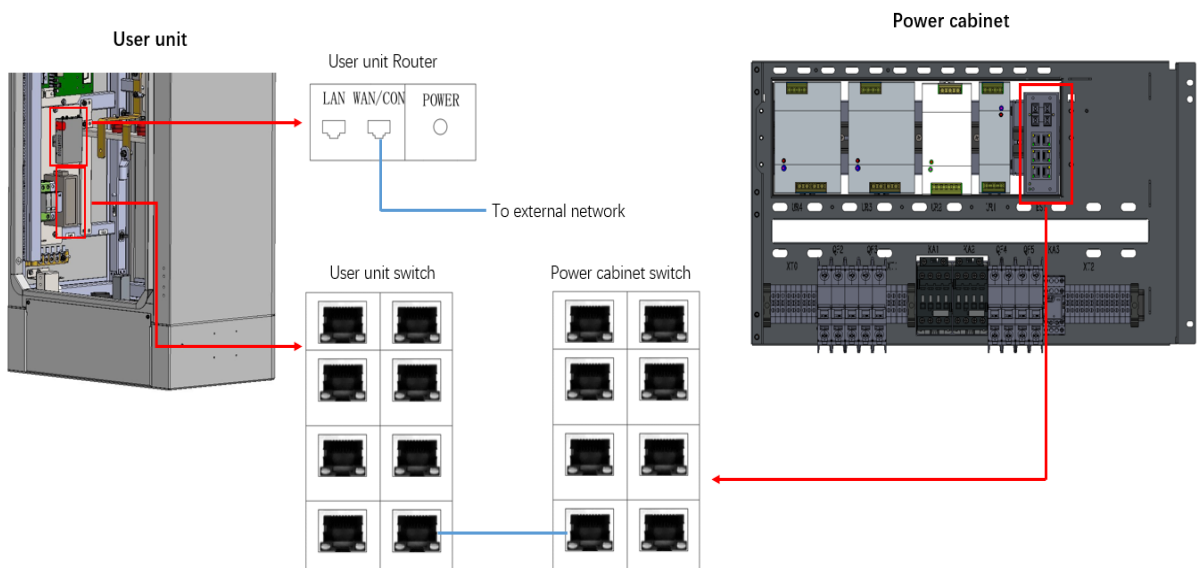

Figure 34 Schematic diagram of network cable connection of single power cabinet system
(7) Connection of network: Connect the switch in the power cabinet to the switch in the user unit with a network cable, crimp the laid network cable with RJ45 connectors, and insert them into the network port of the switch in the power cabinet and the network port of the switch in the user unit respectively, as shown in Figure 34.